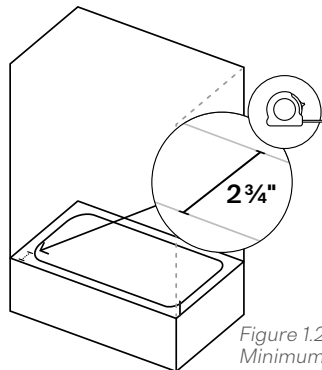

Figure 1.2 Galaxy Fluted Round Slider Minimum Threshold Width
- d. **Verify Threshold Width** - If your shower installation features a raised threshold, the completed threshold must be a minimum width of **2 ¾"** or this model will not fit your space. (Fig. 1.2)